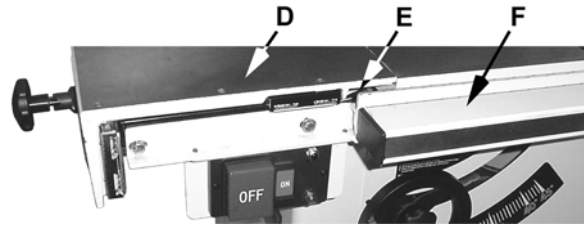

Figure 22
If your left table wing is the *sliding table type* (D, Fig. 22), mount the *guide tube* (F) so it lines up with the left edge on the angle iron portion of the rail (E).